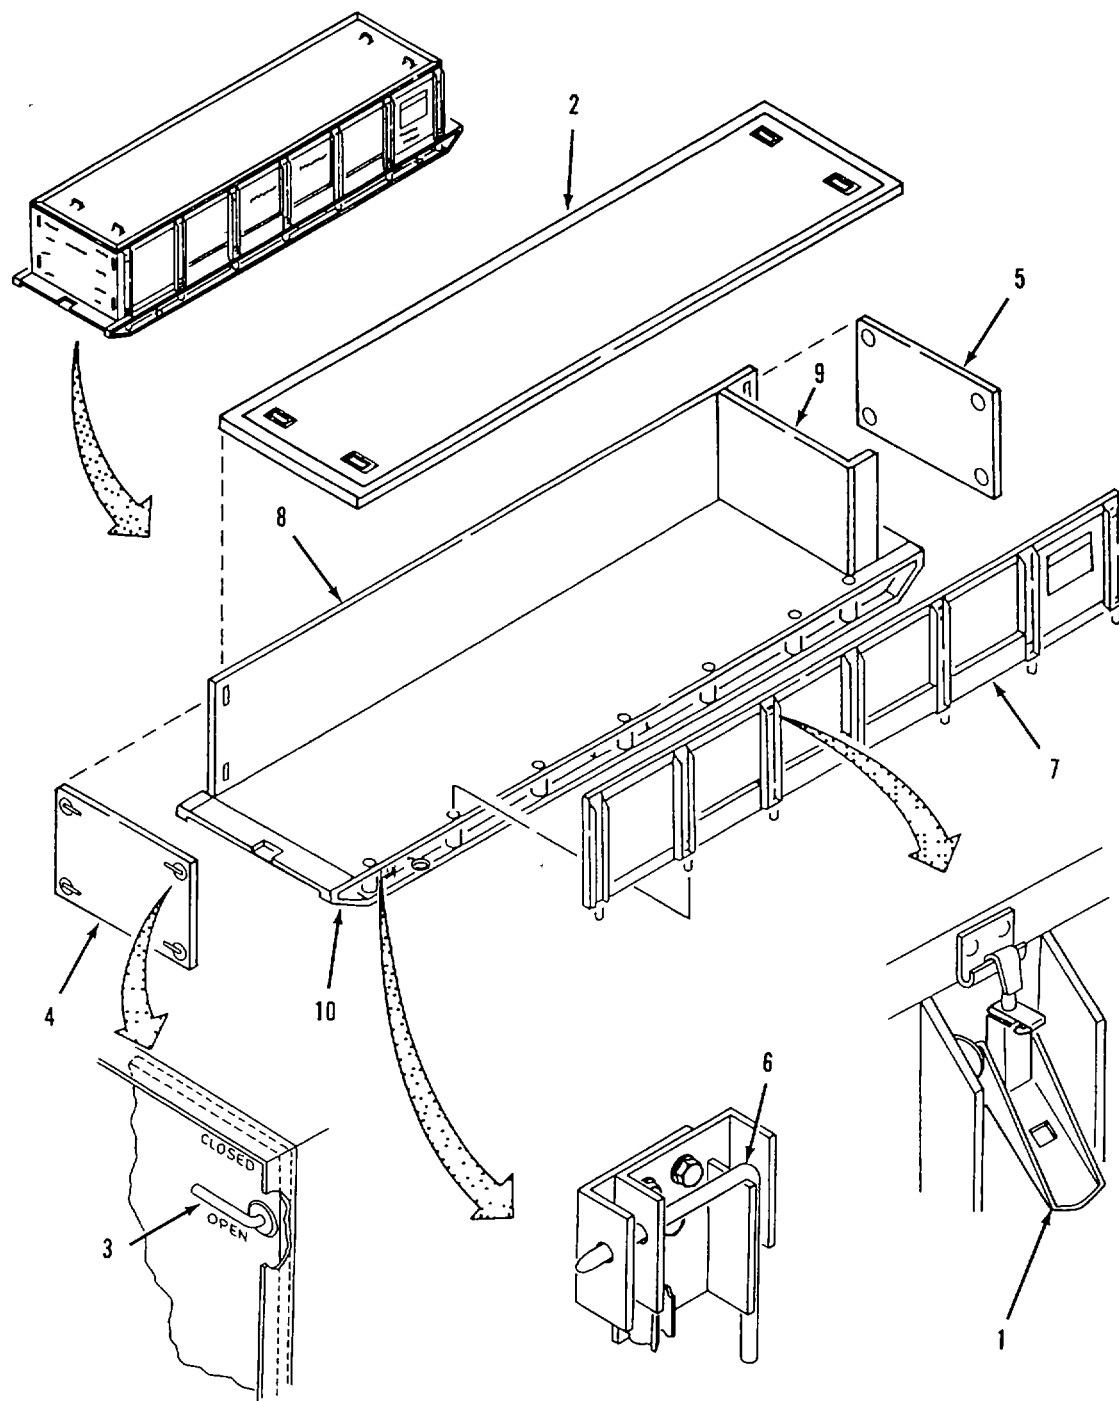

Figure 4-42. Water Tank Chest Repair.
- a. Disassembly. Refer to figure 4-42.
- (1) Unfasten eight latches (1) located on side panels (7 and 8).
- (2) Lift top cover (2) from tank chest.
- (3) Move four handles (3) on end panel (4) to OPEN position. Remove end panel from water tank chest.
- (4) Repeat step (3) for other end panel (5).
- (5) Unlock four locking pins (6) and lift side panel (7) from skid (10).
- (6) Repeat step (5) for other side panel (8).
- (7) Remove divider pan (9) from skid (10).
- (a) Unscrew hoisting ring (1) from skid (10).
- (b) Screw replacement hoisting ring (1) into skid (10).
- (2) Locking pin replacement.
- (a) Remove three nuts (2), lockwashers (3), flat washer (4), screw (5) and flat washer (6) from skid (10).
- (b) Separate outer latch bracket (7) and inner latch bracket (9) from skid (10).
- (c) Remove locking pin (8) from inner latch bracket (7).
- (d) Position replacement locking pin (8) in inner latch bracket (7).
- (e) Position inner latch bracket (7) and outer latch bracket (9) on skid (10).
- (f) Install three flat washers (6), screws (5), flat washers (4), lockwashers (3) and nuts (2).
- (3) Replace skid if damaged beyond repair.
d. Assembly. Refer to figure 4-42.
- (1) Position side panel (7) on skid (10). Lock four locking pins (6).
- (2) Repeat step (1) for other side panel (8).
- (3) Position end panel (4 and 5) between side panel (7 and 8). Turn four handles (3) to CLOSE position on both end panels.
- (4) Position divider pan (9) on skid (10).
- (5) Lower top cover (2) onto water chest. Fasten eight latches (1).